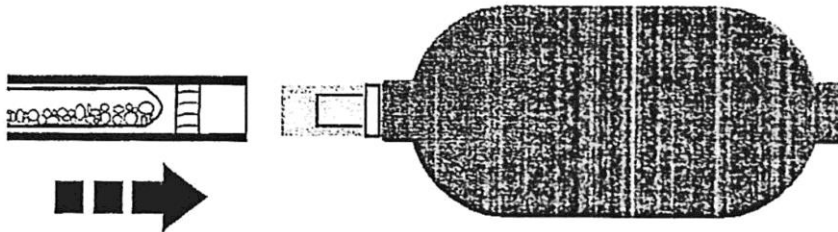

fig.2
- Connect tube and aspirator bulb as shown in fig.2. Note: